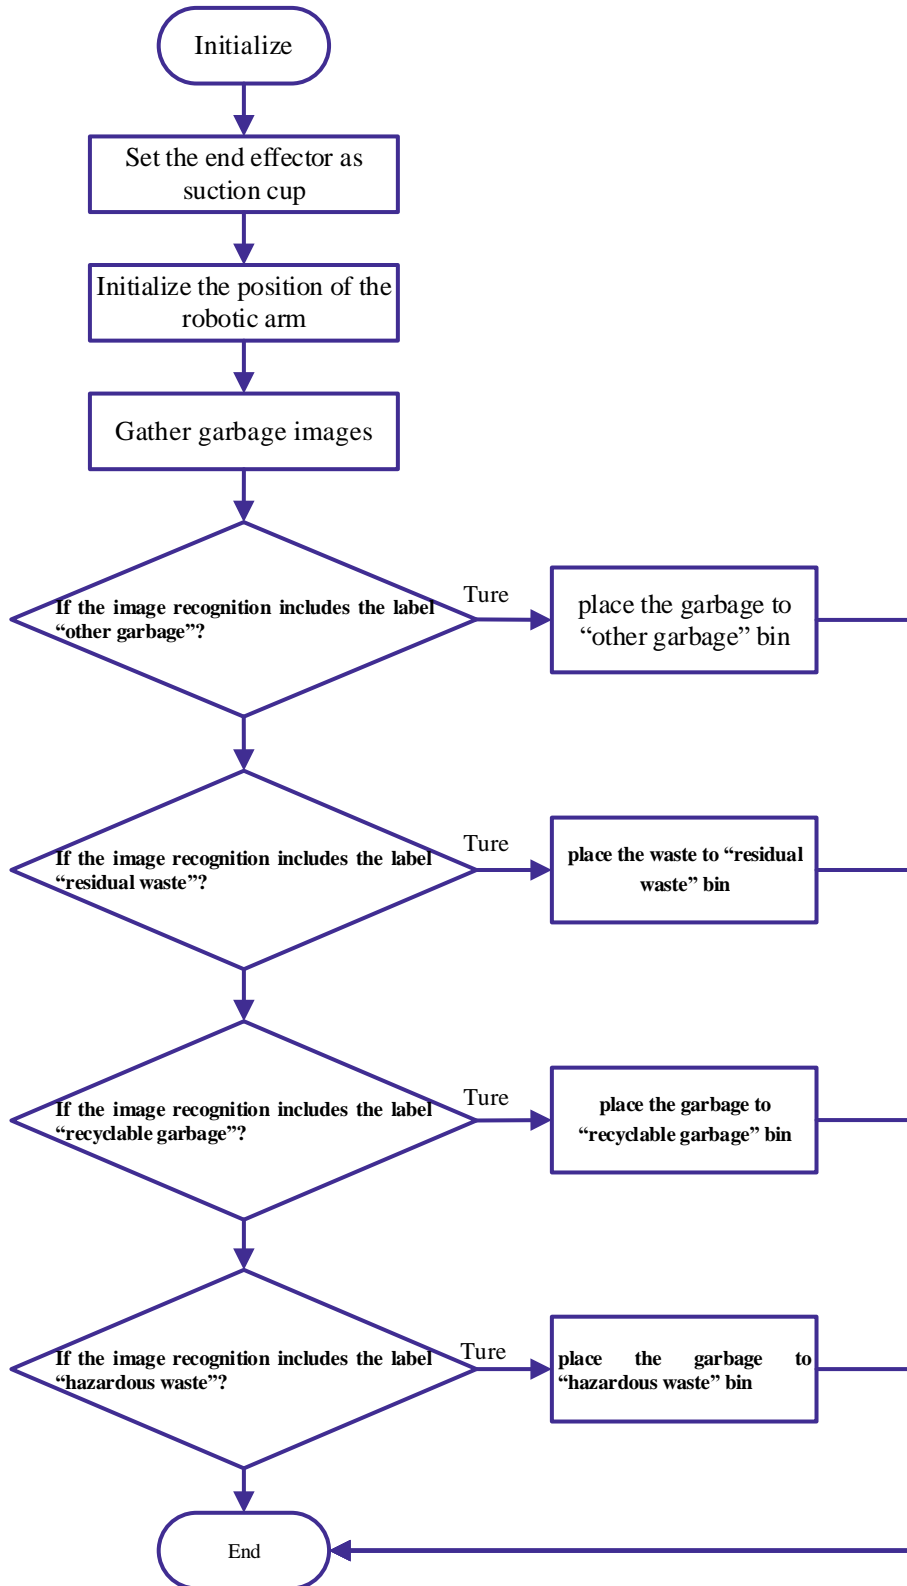

Figure 3.8 Flowchart
(2) Design Program
Step 1: Analyze the implementation process of garbage classification and draw a flowchart, as shown in Figure 3.8.